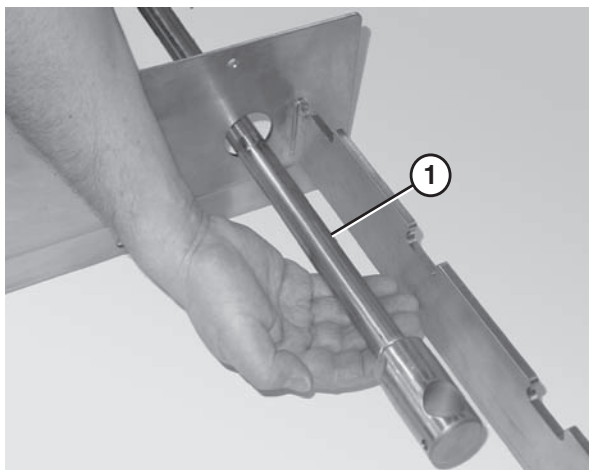

Figure 19
1. Slide the tip up shaft (**Figure 19, item 1**) through the designated slots in the frame.